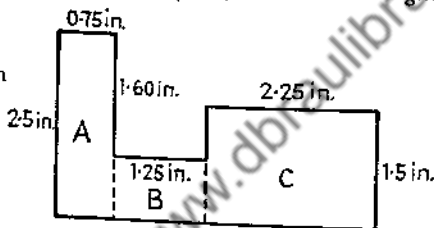

Fig. 9
(3) Calculate the area of the section shown in fig. 9. If it is made of sheet metal weighing  $4.5 \text{ lb/in.}^2$ , calculate its weight.